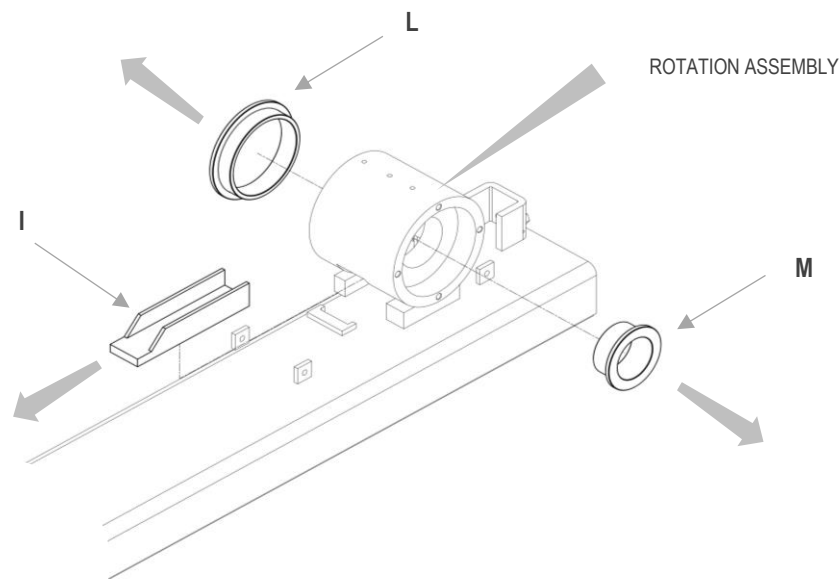

Figure 46
5. Once all the above procedures have been carried out, move the rack sliding bush **I** upwards and remove it from its housing (see Figure 46)
6. Remove the flanged bush **M** of the pad from its housing and slide it off the rotation assembly (see Figure 46)
7. Remove the flanged bush **L** of the pad from its housing and slide it off the rotation assembly (see Figure 46)